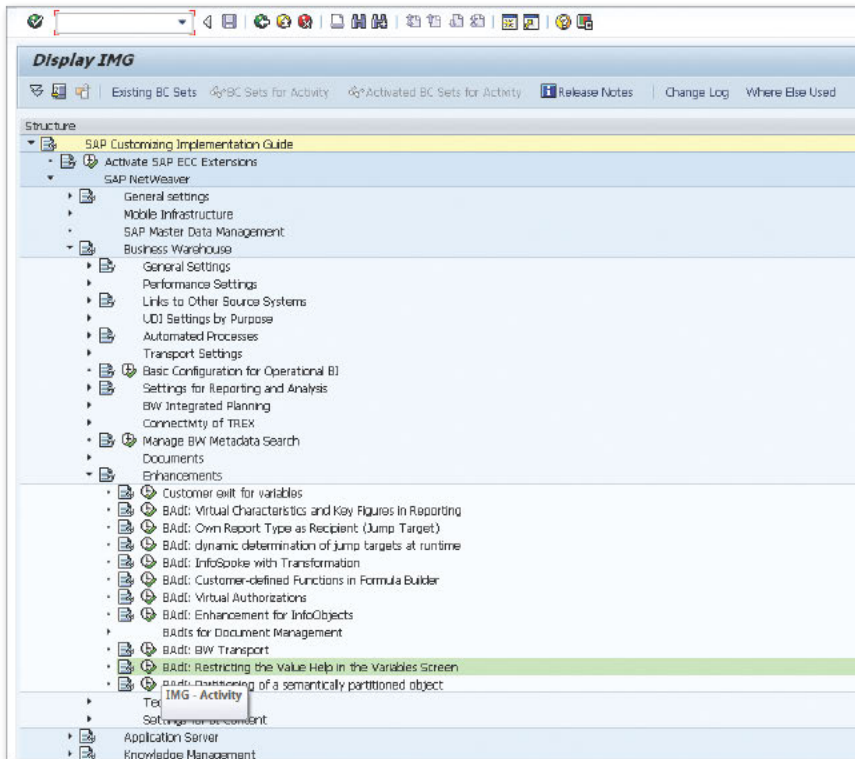

Figure 1 SAP Reference IMG Screen with the BAdI Selected
3. In the resulting screen shown in Figure 1, click the EXECUTE button near BADI: RESTRICTING THE VALUE HELP IN THE VARIABLES SCREEN.